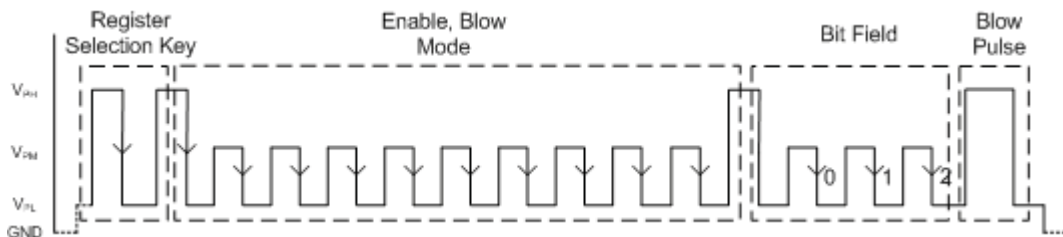

Figure 12. Example of Blow mode pulse sequence, Register Key = BOP selection bit field 2 (code 4)
**Blow Mode** After the required code is determined for a given parameter, its value can be set permanently by blowing individual fuses in the appropriate register bit field. Blowing is accomplished by selecting the register, then the Blow mode selection key, followed by the appropriate bit field address, and ending the sequence with the Blow pulse. The Blow mode selection key is a sequence of nine  $V_{PM}$  pulses followed by one  $V_{PH}$  pulse. A complete example is provided in figure 12.